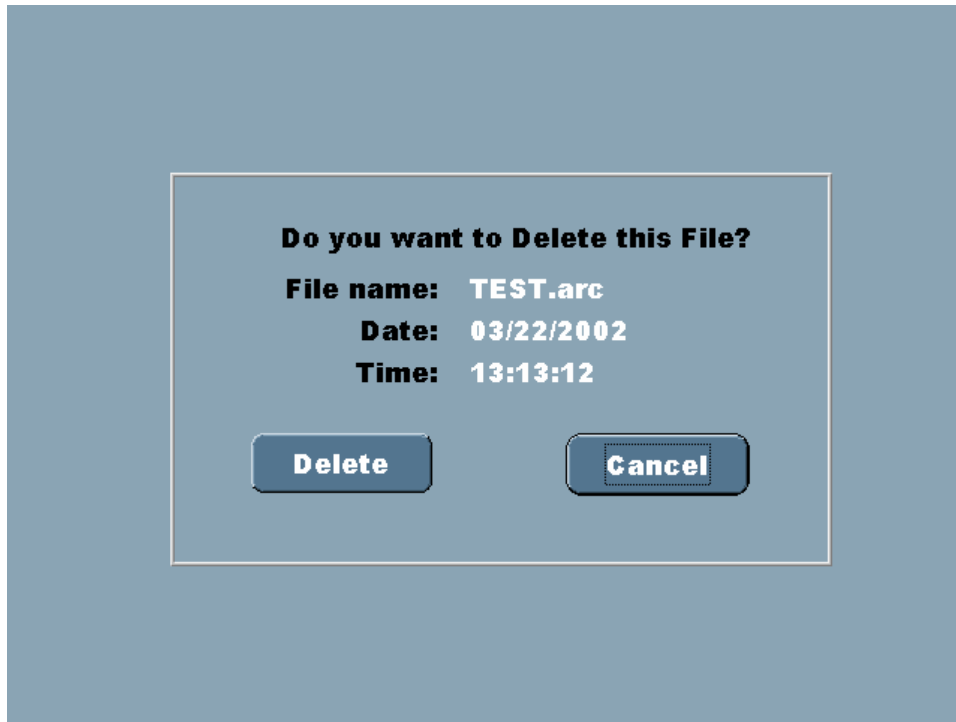

Figure 6-12 Delete screen
- To go to the Delete screen (Fig. 6-12) and delete the selected file from memory, press **Delete**.
Use the Delete screen (Figure 6-12) to delete selected files.